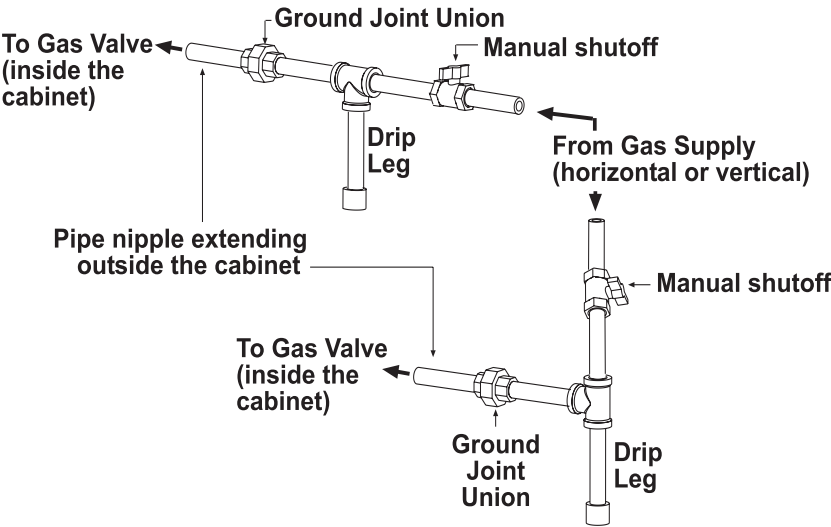

Figure 8. Gas Connections
- Install a ground joint union and manual shutoff valve upstream of the unit control system, as shown in Figure 8.
- The 1/8-inch plugged tapping in the manual shutoff valve in Figure 8 provides connection for a supply line pressure test gauge.
- The *National Fuel Gas Code* requires the installation of a trap with a minimum 3-inch drip leg (see Figure 8). Local codes may require a drip leg longer than 3 inches (typically 6 inches). To permit burner removal, this drip leg must extend beyond the edge of the heater.
- The gas connection is made at the pipe nipple that extends outside the cabinet, as shown in **Figure 8**. Gas connection sizes are listed in **Table 11**.